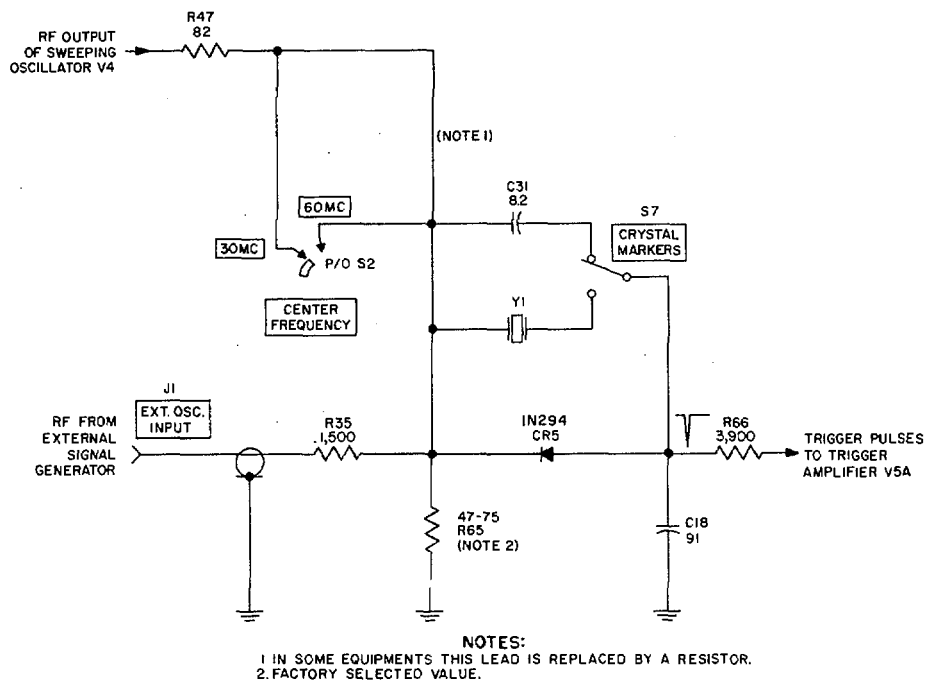

Figure 8. Crystal marker and detector circuits, schematic diagram.
(fig. 8)
c. The crystals selected by means of the CRYSTAL MARKERS switches are connected into absorption-type marker circuits. Whenever the output frequency of sweeping oscillator V4 passes through the resonant frequency of any selected crystal, that crystal is excited and generates a short train of oscillations. These oscillations are detected by crystal detector CR5, filtered by capacitor C18 and resistor R66, and the resultant negative trigger pulse is applied to trigger amplifier V5A. For simplicity, only one marker crystal is shown, in figure 8; however nine parallel circuits are provided. When any CRYSTAL MARKERS switch is set to the off position, the switch connects an 8.2-micromicrofarad (uuf) capacitor into the crystal marker circuit. This capacitor simulates the shunt capacitance of the crystal, so that detuning of the crystals in use